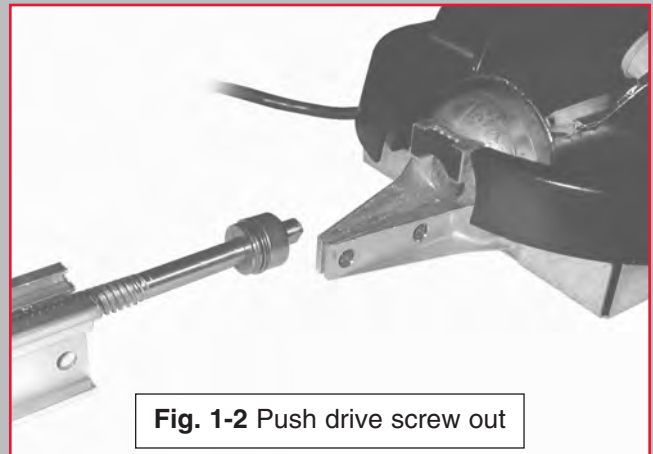

Fig. 1-2 Push drive screw out
2. Connect boom to power head. Either 1-piece boom or first section of 3-piece boom (Fig. 1-2).